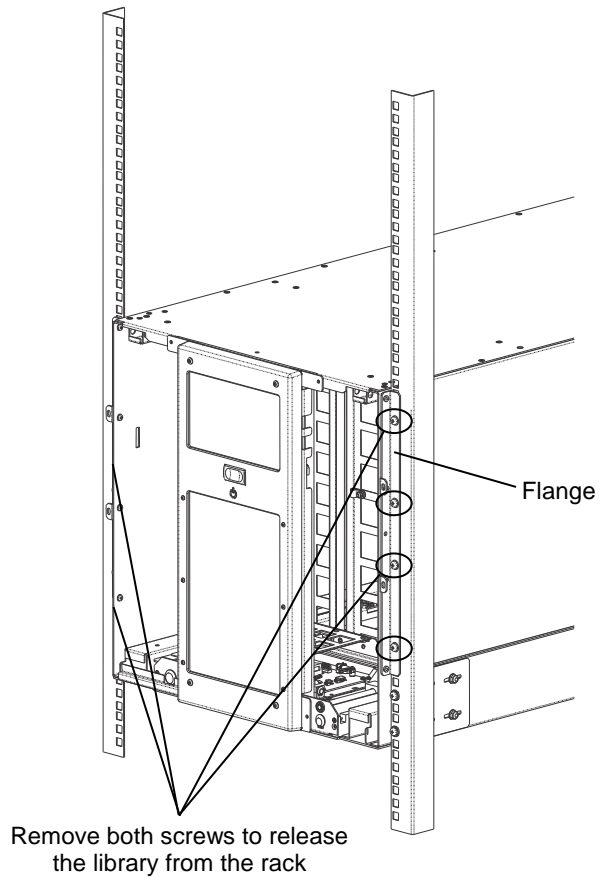

Figure 7-15 Removing the screws that secure the Library to the Rack
4. Use a Number 2 Phillips screwdriver to remove the two screws (one on each side) that secure the library to the front rack posts. See Figure 7-15.